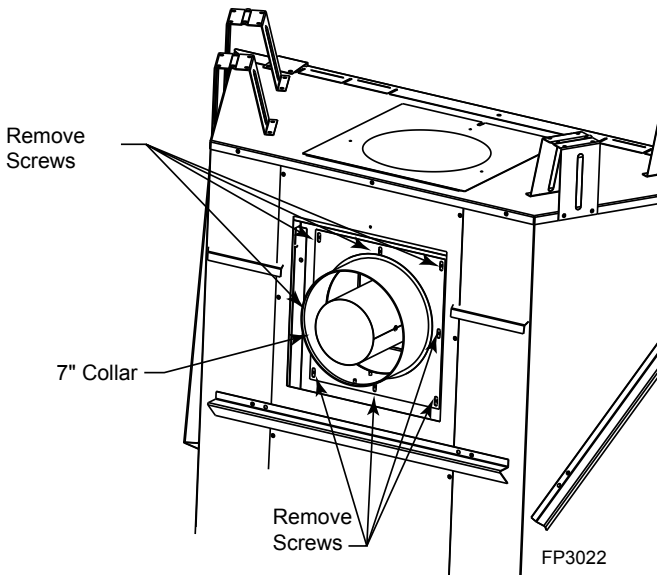

Figure 8 - Remove 7" Collar and Gasket
2. Remove the plate with the 7" collar and gasket by removing eight (8) screws. Set aside. *Figure 8*